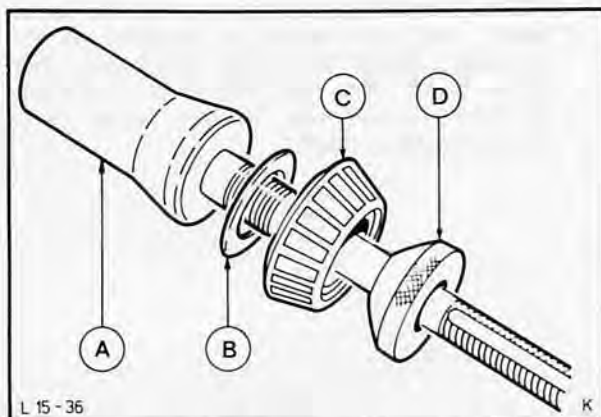

Fig. 108. Master pinion 15-020
14. Slide shim that has been removed or a new shim of any thickness together with the inner taper roller bearing onto the master pinion, Fig. 108.